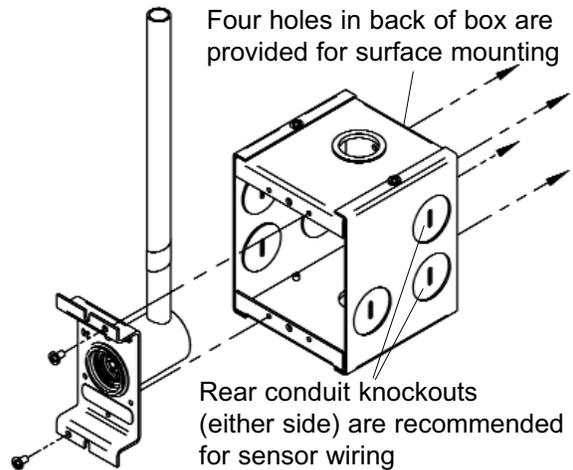

Figure 18: Remote Sensor Back Box
1. Remove sensor rough-in from mounting box (Figure 18).